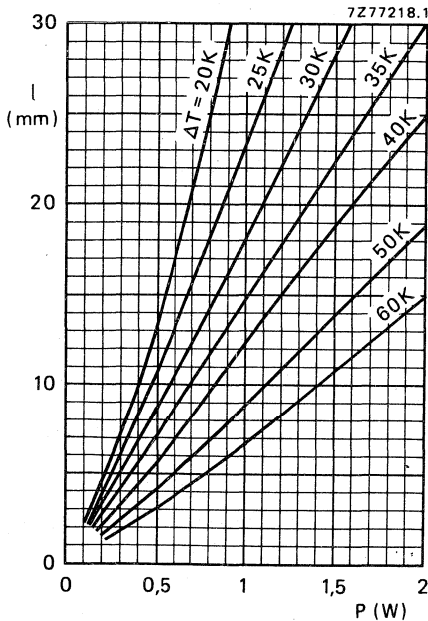

Fig. 5 Lead length l versus dissipated power with ΔT as a parameter, leads $\phi = 0,6$ mm.
- Lead length (l) as a function of dissipation with temperature rise at end of lead (soldering place) as parameter see Figs 5 and 6